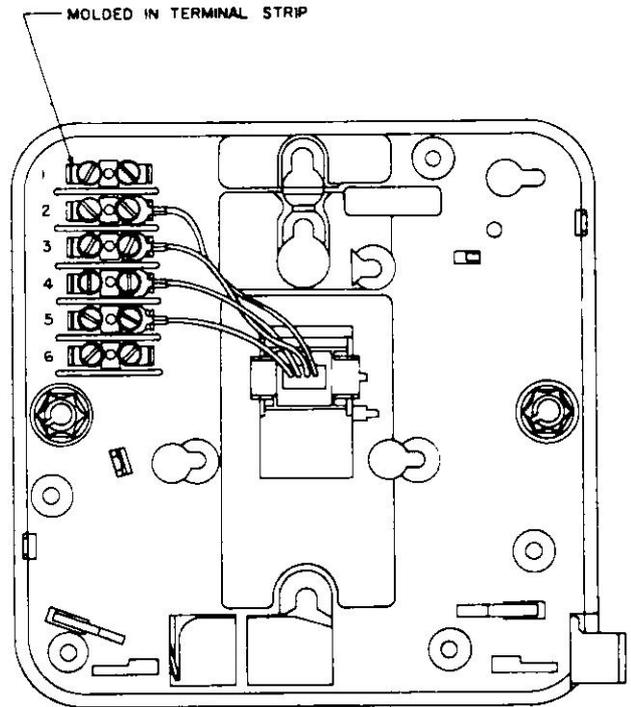

Figure 2. Ringer Box Baseplate
2.01 The box (Figure 1) consists of a plastic baseplate with a molded-in terminal strip (Figure 2) and a plastic housing. When assembled, the box is 5¼ inches high, 5½ inches wide, and 2½ inches deep. The box can be equipped with straight-line, superimposed, or harmonic ringers. Figure 3 shows a Type 48 straight-line ringer assembled on the baseplate. The ringer capacitor on the ringer assembly is replaced by a cold cathode tube when superimposed ringing is desired. The box also has a terminal strip molded into the base. At this terminal strip, the ringer wiring, modular jacks, modular plugs, and telephone line cord are connected. This terminal strip eliminates the need for a line cord connecting block.